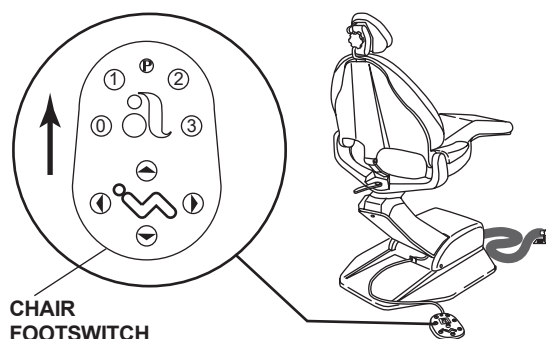
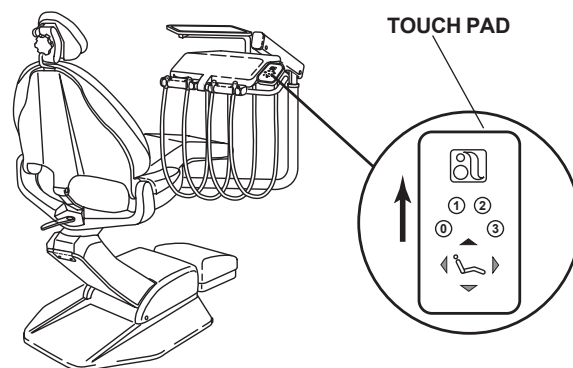

FIGURE 1
FIGURE 2
1. Raise the chair base completely up using the footswitch (see Figure 1) or the touch pad on the delivery system (see Figure 2).